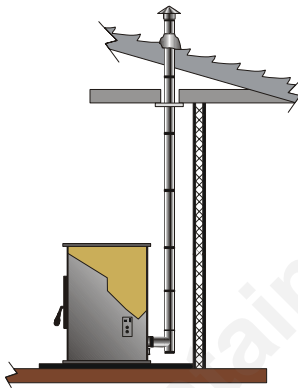

Figure 19
VERTICAL INSTALLATIONS: (Figures 19 - 24)
- 🔥 **VERTICAL, THROUGH THE CEILING**, through another room or space, or attic, then through the roof, terminating with a rain cap. Figure 19.